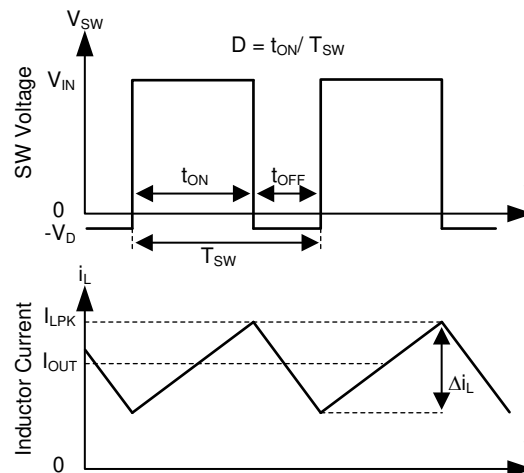

Figure 10-2. SW Node and Inductor Current Waveforms in Continuous Conduction Mode (CCM)
The following operating description of the TPS2585x-Q1 refers to the Functional Block Diagram. The TPS2585x-Q1 integrates a monolithic, synchronous, rectified, step-down, switch-mode converter with internal power MOSFETs and USB current-limit switches with charging ports auto-detection. The TPS2585x-Q1 offers a compact and high efficiency solution with excellent load and line regulation over a wide input supply range. The TPS2585x-Q1 supplies a regulated output voltage by turning on the high-side (HS) and low-side (LS) NMOS switches with controlled duty cycle. During high-side switch ON time, the SW pin voltage swings up to approximately V_{IN} , and the inductor current, i_L , increase with linear slope $(V_{IN} - V_{OUT}) / L$. When the HS switch is turned off by the control logic, the LS switch is turned on after an anti-shoot-through dead time. Inductor current discharges through the LS switch with a slope of $-V_{OUT} / L$. The control parameter of a buck converter is defined as Duty Cycle $D = t_{ON} / T_{SW}$, where t_{ON} is the high-side switch ON time and T_{SW} is the switching period, shown in Figure 10-2. The regulator control loop maintains a constant output voltage by adjusting the duty cycle D . In an ideal buck converter, where losses are ignored, D is proportional to the output voltage and inversely proportional to the input voltage: $D = V_{OUT} / V_{IN}$.